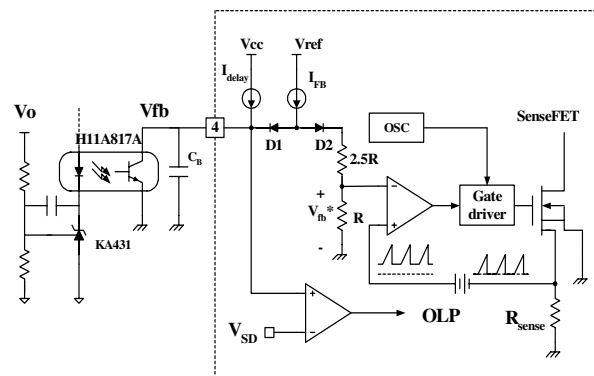

Figure 5. Pulse width modulation (PWM) circuit
2. Feedback Control : FSDM07652RB employs current mode control, as shown in Figure 5. An opto-coupler (such as the H11A817A) and shunt regulator (such as the KA431) are typically used to implement the feedback network. Comparing the feedback voltage with the voltage across the R_{sense} resistor plus an offset voltage makes it possible to control the switching duty cycle. When the reference pin voltage of 2.5V, the H11A817A LED current increases, thus pulling down the feedback voltage and reducing the duty cycle. This event typically happens when the input voltage is increased or the output load is decreased.
2.1 Pulse-by-pulse current limit: Because current mode control is employed, the peak current through the Sense FET is limited by the inverting input of PWM comparator (Vfb*) as shown in Figure 5. Assuming that the 0.9mA current source flows only through the internal resistor (2.5R + R = 2.8 kΩ), the cathode voltage of diode D2 is about 2.5V. Since D1 is blocked when the feedback voltage (Vfb) exceeds 2.5V, the maximum voltage of the cathode of D2 is clamped at this voltage, thus clamping Vfb*. Therefore, the peak value of the current through the Sense FET is limited.